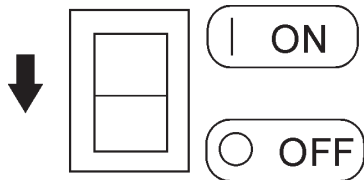
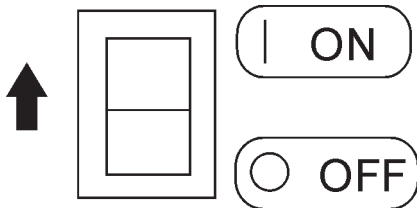

Figure 16. Idle Control Switch (Off)
Figure 17. Idle Control Switch (On)
- Place the **idle control switch** (Figure 16) in the **"OFF"** (down) position. This will allow the engine speed to run at speed about 3600 RPM's
Placing the **idle control switch** in the **OFF** position (Figure 16) allows the engine to operate at a maximum speed of about 3600 RPM's. When the idle control switch is placed in the up position (**ON**) (Figure 17),